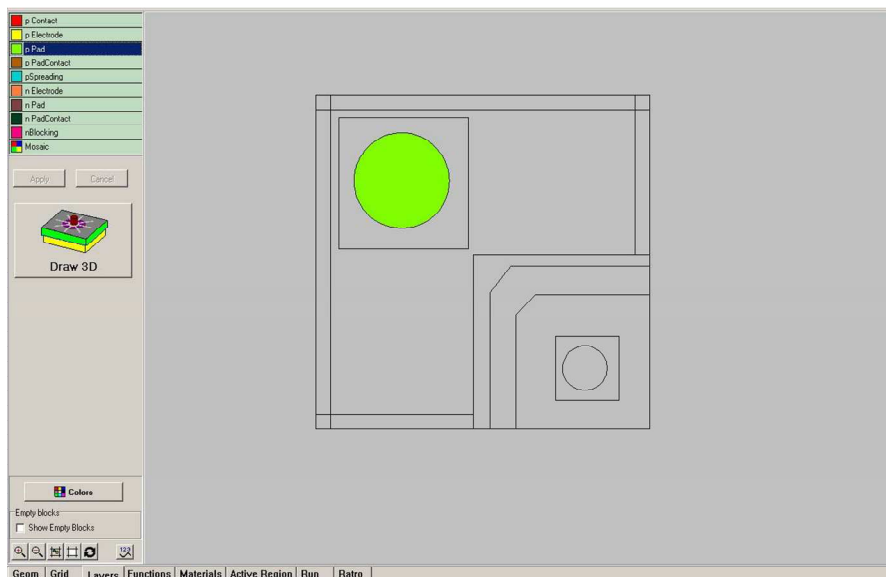

Fig. 22
***p-pad.*** Area of the pad on p-electrode (see Fig. 22). This layer should lie inside the p-electrode.